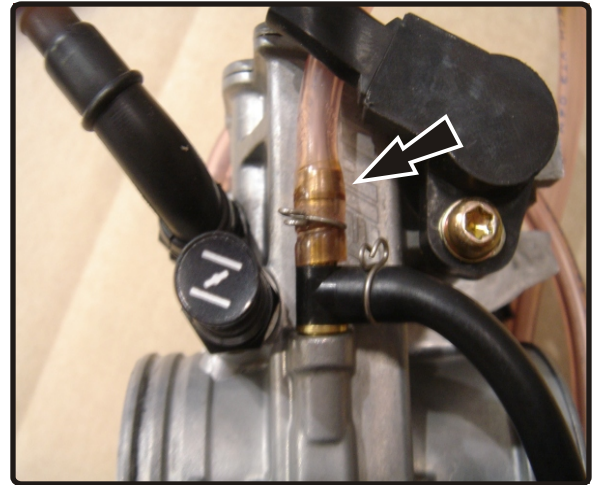
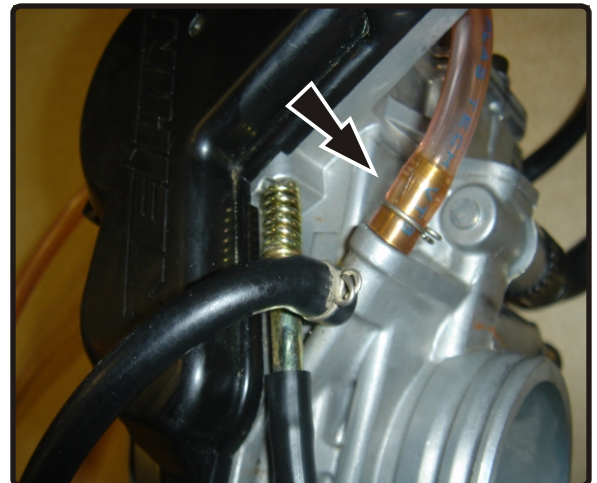

Fig. 1
Fig. 2
2. Locate the two upper float bowl vent tubes (as shown in Fig. 1 and Fig.2).